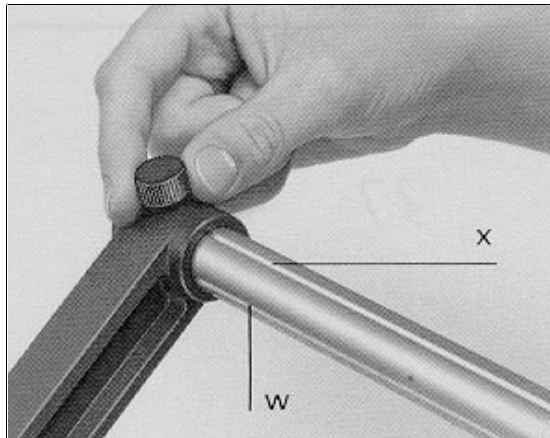

Figure 2-37. Tightening Screw on Lamp Arm and Groove on Cross Bar
d. Attach the cross bars. Slide the cross bars into the top of each lamp arm (figure 2-37). Rotate the bar until the groove (w) points down and the second groove (x) is aligned with the fastening screw. Tighten the fastening screw to lock the bar in place.